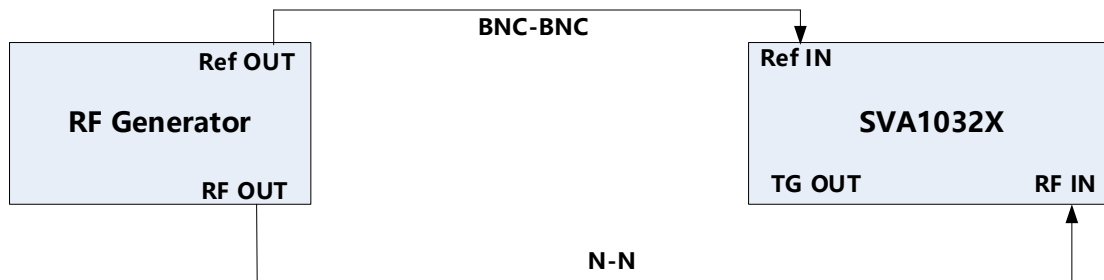

Figure 3-4 Phase noise verification connections
1. Connect the signal generator and spectrum analyzer as figure 3-4 shows
- 1. Connect the signal generator and spectrum analyzer as figure 3-4 shows